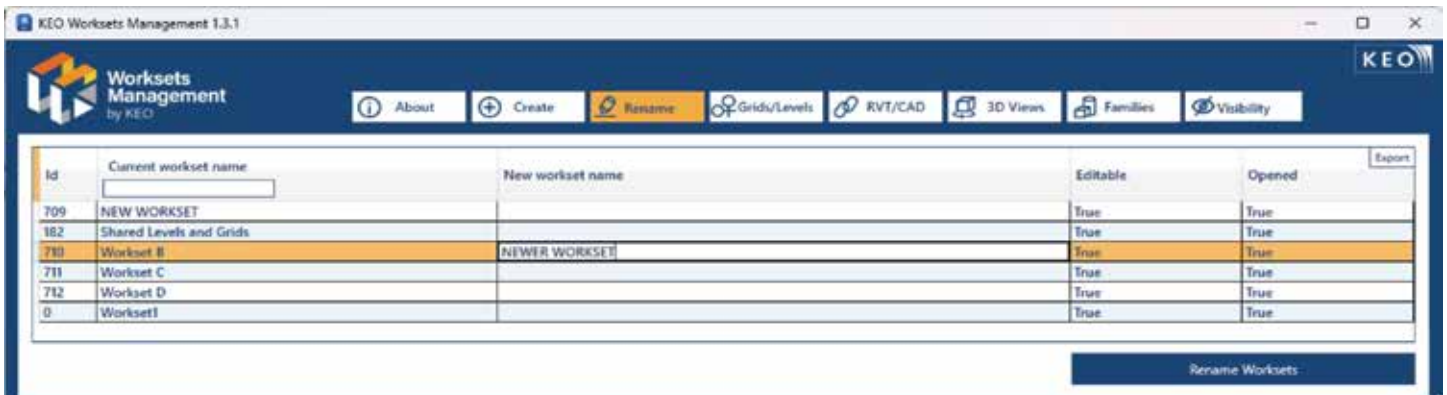

Figure 28
**Assign** - Grids / Levels to Worksets. Figure 28.